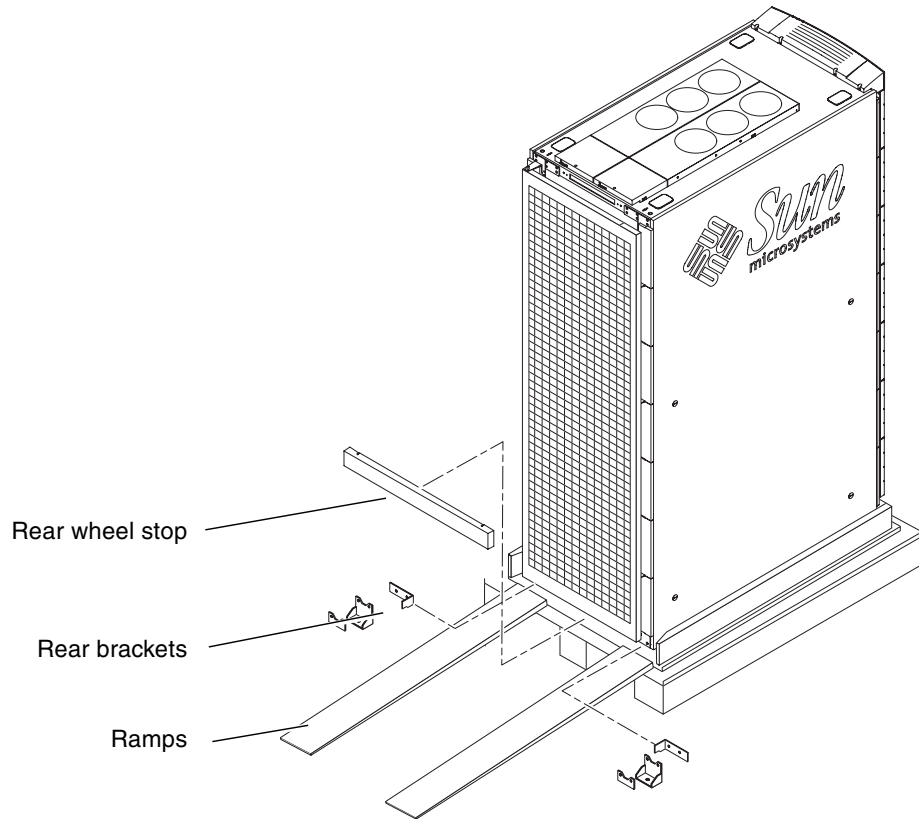

FIGURE 2-2 Removing the Rear Brackets and Rear Wheel Stop and Positioning Ramps
4. Remove the rear wheel stop (FIGURE 2-2).